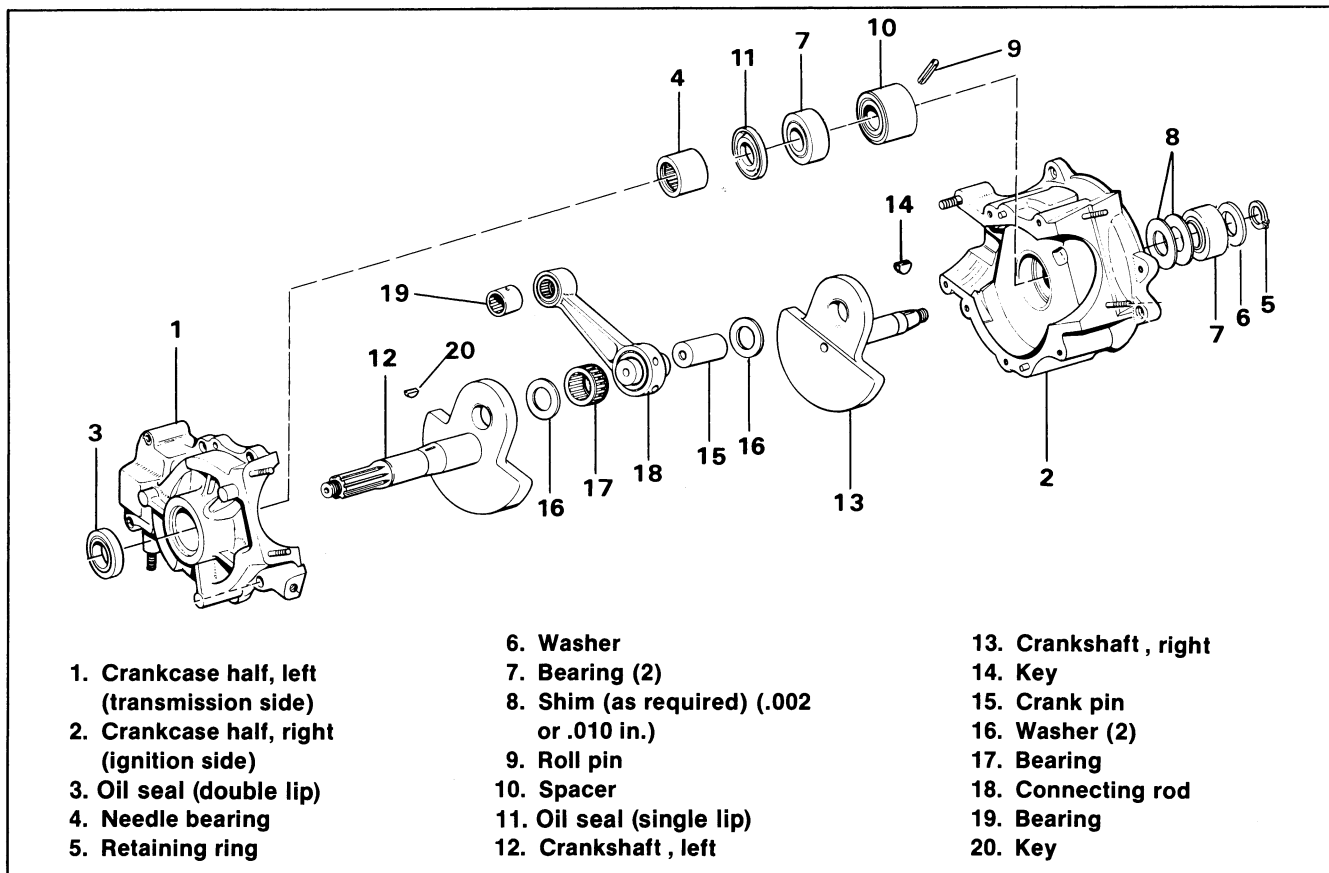
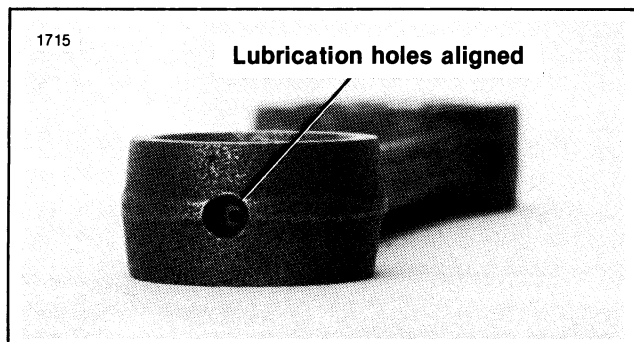
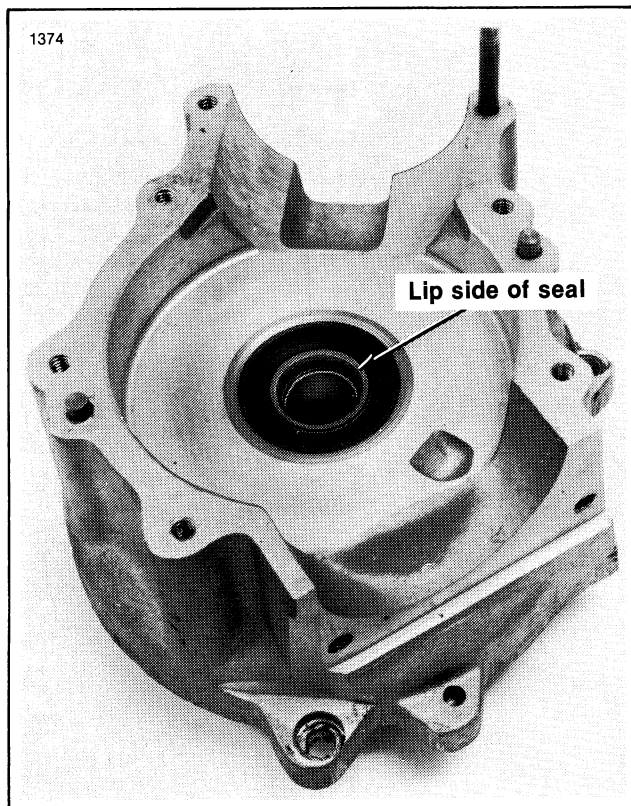

Figure 5-25. Crankcase Assembly — Exploded View
Figure 5-26. Connecting Rod And Bearing Lubrication Hole
Figure 5-32. Install New Inner Bearing And Seal
Crankshaft (Figure 5-25)
2. See Figure 5-25. Examine the rod (18), washers (16) and crankshaft halves (12, 13). Replace them if they appear worn, grooved or damaged.
1. If replacing the bearing, press the needle bearing (19, Figure 5-25) from the connecting rod. Coat a new needle bearing with 2-cycle engine oil and press it into the connecting rod upper end. See Figure 5-26. On some engine assemblies, the bearing and connecting rod each have a lubrication hole. These holes must be aligned when the bearing is installed.
9. See Figure 5-32. Measure the crankshaft end play with a dial indicator by moving crankshaft in and out of case as far as it will go. End play should be .001-.005 in. End play is increased by removing shims (8, Figure 5-25), or decreased by adding shims. When correct end play is achieved, remove the crankshaft.